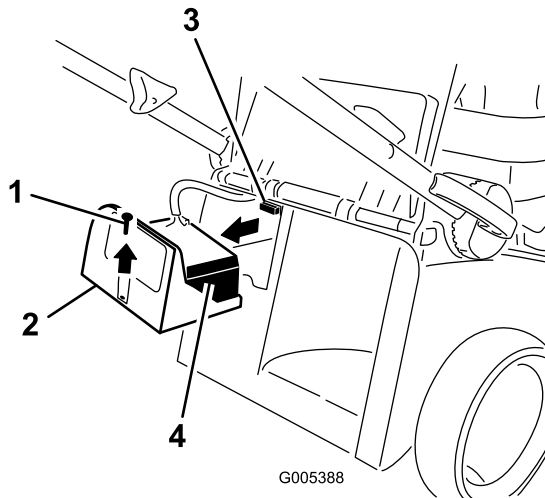

Figure 7
1. Remove the battery cover and the battery and locate the fuse holder (Figure 7).